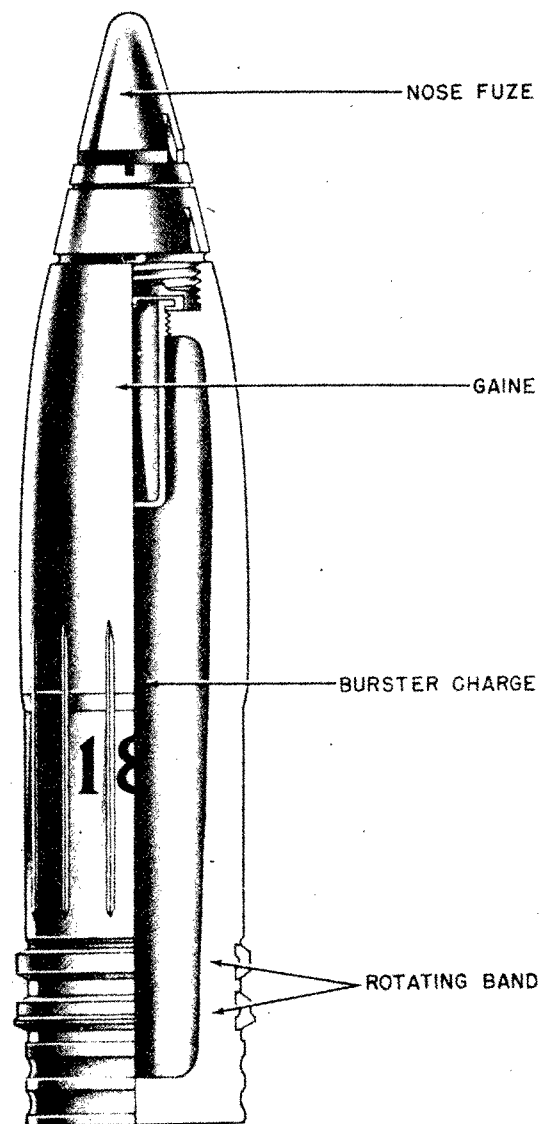

Figure 435—High Explosive Projectile for 88-mm A. A. Guns, 8.8-cm Sprgr. L/4.5 Zt.Z.
**GERMAN NOMENCLATURE:** 8.8-cm Sprgr. L/4.5 Zt. Z (Controlled Fragmentation). (See fig. 435.)